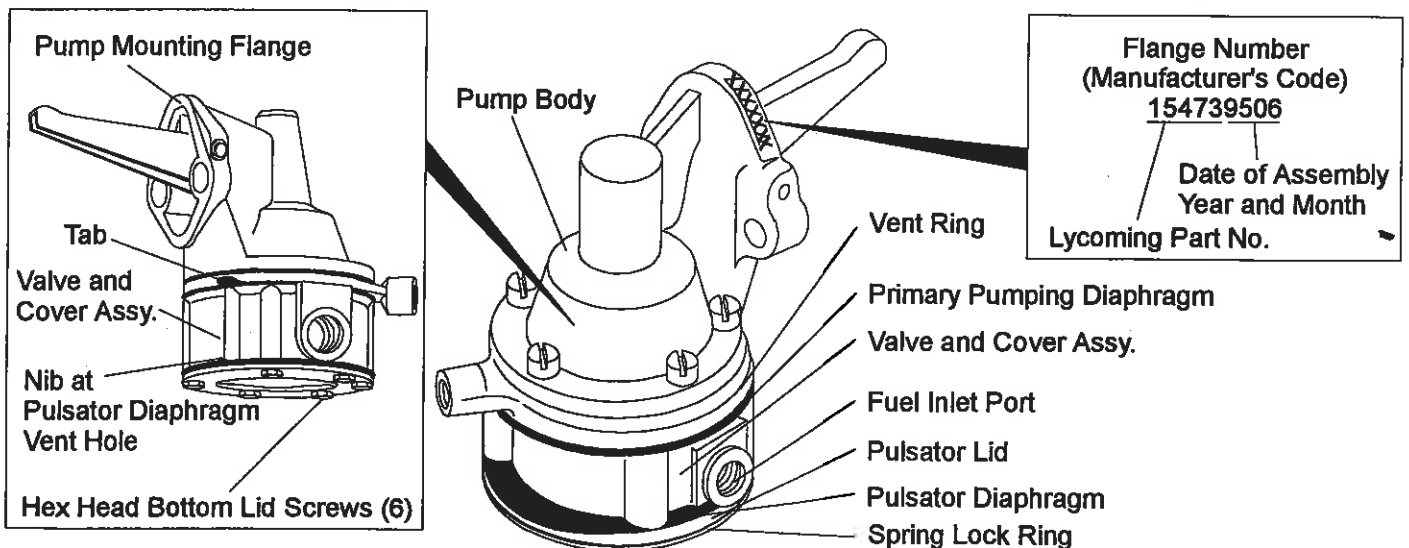

Figure 1.
3. Completely loosen but do not remove the six hex head bottom lid screws and remove the entire bottom section of the pump as a unit assembly including the lid screws and valve and cover assembly. (Refer to Figure 1 and 4.) Set this unit assembly aside for later examination (step 7). Note, this unit may be further disassembled for cleaning.
11. To identify that this examination was accomplished on the pump assembly, mark an "A" by metal stamp or scribe on the pump mounting flange immediately before the flange number (manufacturer's code). (Refer to Figure 1). If necessary due to space constraints, the "A" may be located just above the rocker shaft pin. An entry in the engine and/or aircraft log book should also be made.